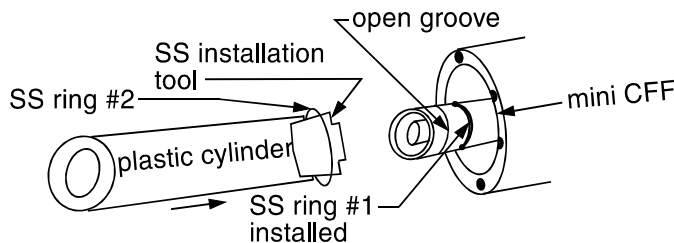

Figure 2-3.
3. Use the two flat-headed screwdrivers prying against the mini-CFF — pry SS ring #1 over the PEEK cylinder and into the open groove (Figure 2-3).